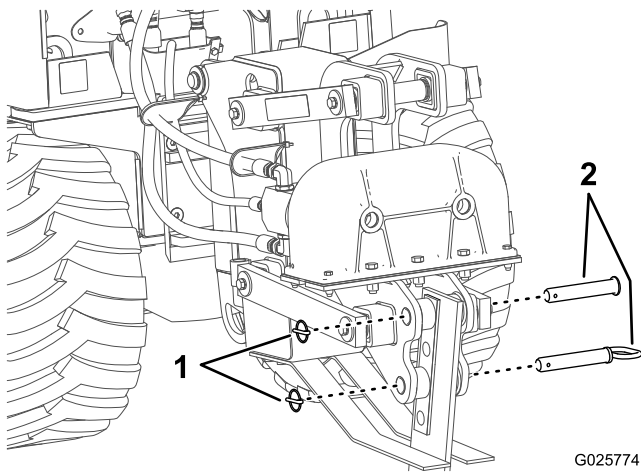

Figure 9
2. Flip the 2 circular snap rings over and remove the snap-ring pin (Figure 9).